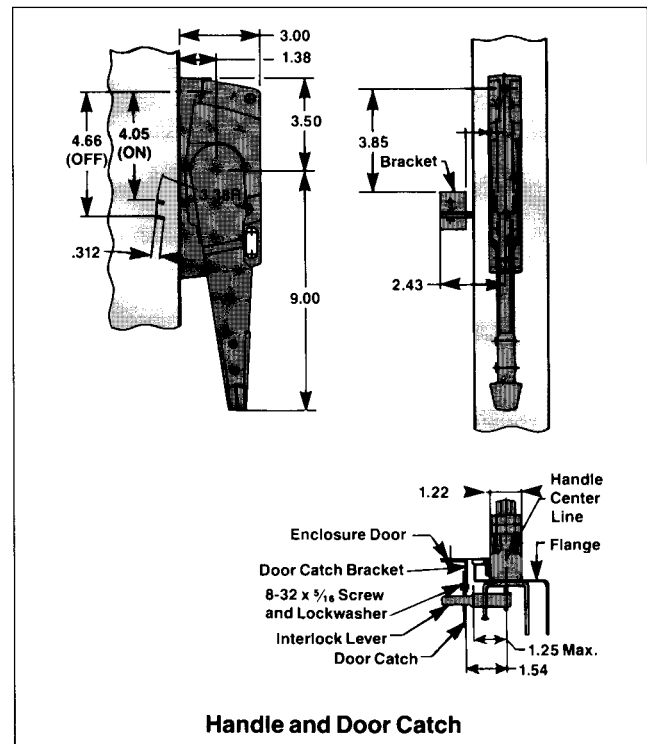

Figure 4
B. Turn handle ON and attempt to open door. The interlock should hold the door closed. If the door can be opened, readjust the door catch upward in its slot. Repeat Steps A and B to insure the door cannot be opened when the handle is in the ON position. Figure 4 shows the location of the handle and door catch when mounted in the enclosure.